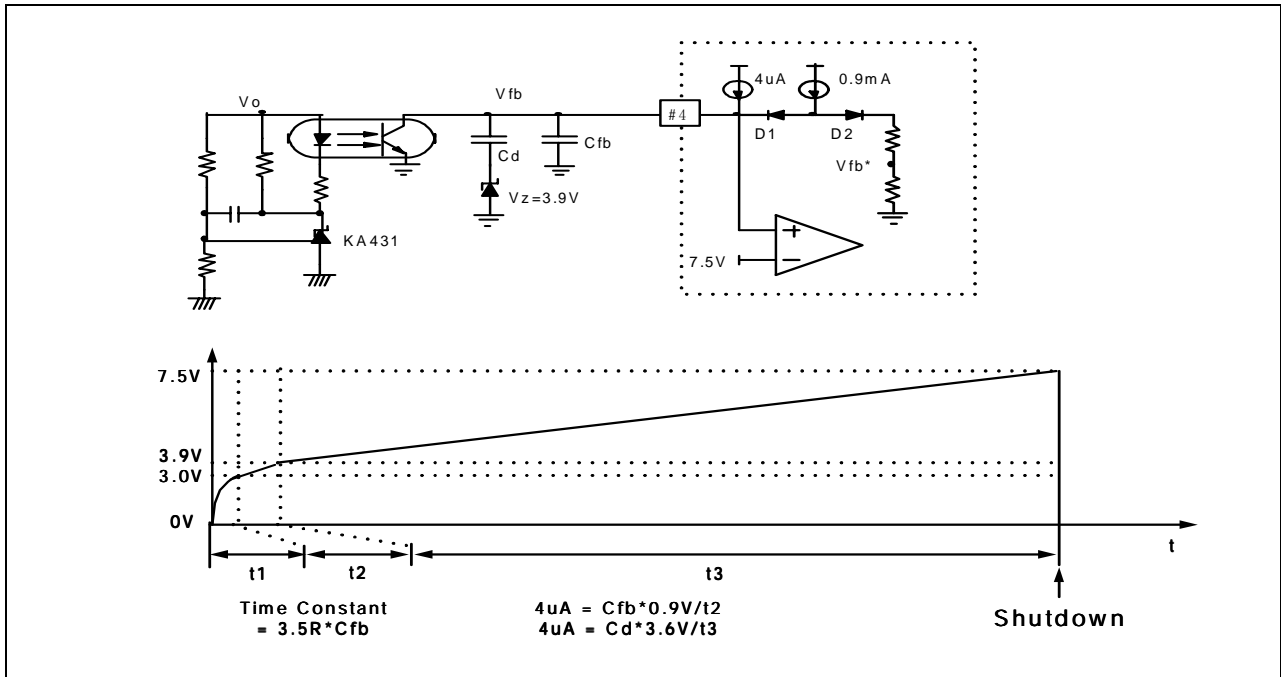

Figure 3. SPS Delayed Shutdown
SPS shutdown. If a part of delay current go through the added resistor, the time to shutdown can be lengthened. In our test the delay shutdown time with C_{fb} (473) and resistor (3.9M) is about two times longer than with only C_{fb} (473). When V_{fb} is 7.5V, the current flowing through this 3.9mΩ resistor is approximately 1.9uA. To obtain the same results, if a zener diode (about 3.9 ~ 4.7V) in series connection with a capacitor is parallel-connected to C_{fb} , as depicted in Fig 3., the desired shutdown delay time could be obtained according to the size of the capacitor.